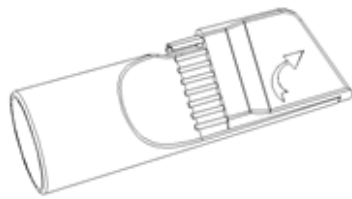

Fig.11
1. As in fig.11, you can use the compressed brush in the corner and the aperture.